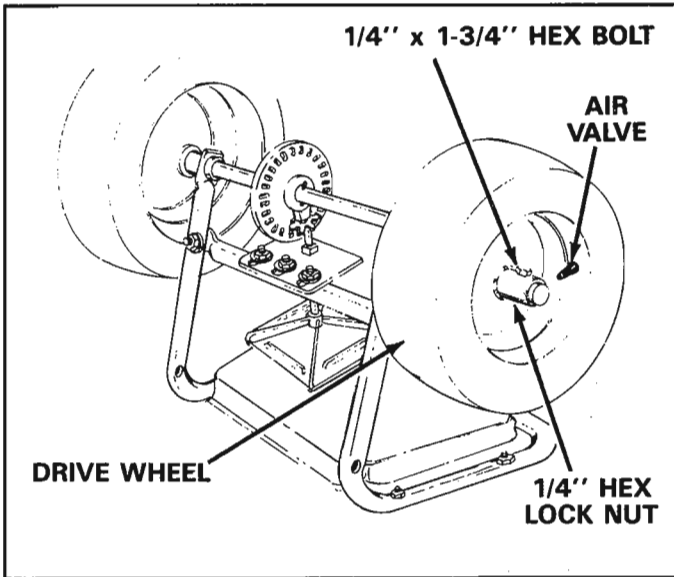

FIGURE 6
- Place the drive wheel (with hole through hub) onto the other end of axle (air valve to the outside) and secure with 1/4" x 1-3/4" hex bolt and 1/4" hex lock nut. See figure 6.